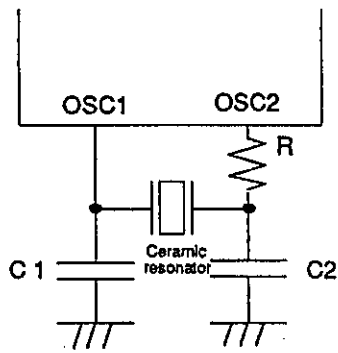

Fig. 2 Ceramic resonator OSC circuit
- (*1) When oscillated internally under the oscillating conditions in Fig.2, up to the oscillation amplitude generated is allowable.